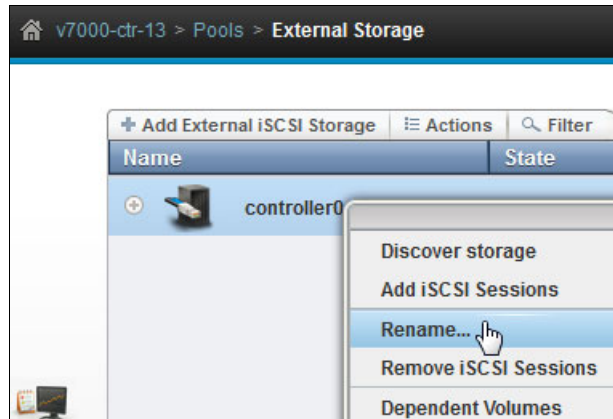

Figure 4-24 Renaming the controller
10. Rename the default controller name by clicking **Pools** → **External Storage**, right-clicking the controller, and selecting **Rename**, as shown in Figure 4-24.